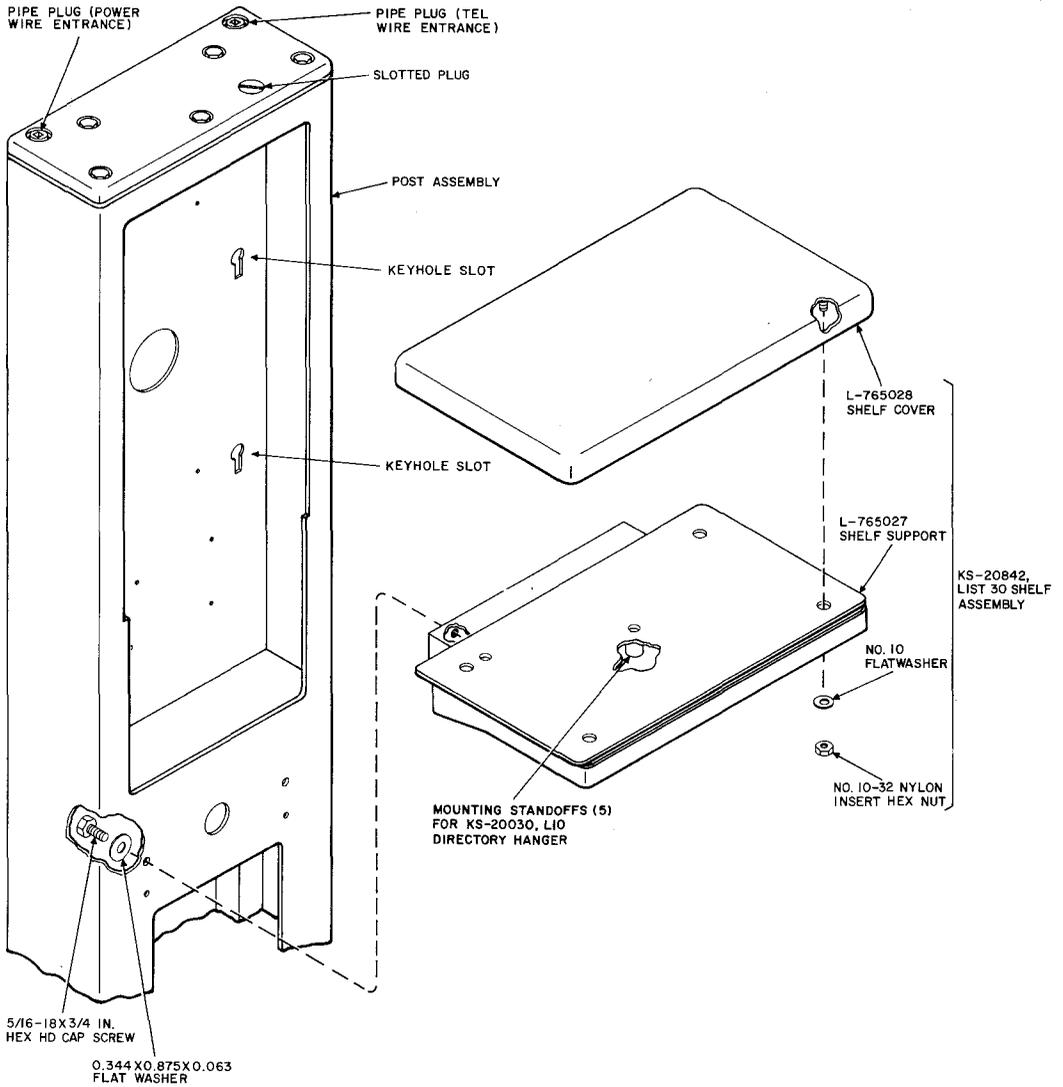

Fig. 28—Installation of List 30 Shelf on Post
- (b) Align the holes in the rear of shelf with mounting holes on front of post (Fig. 28).